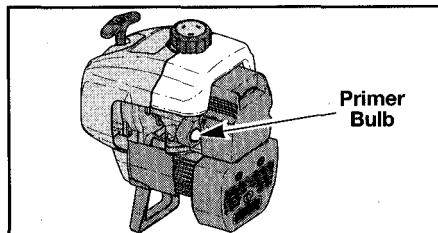

Fig. 10
3. **FULLY PRESS AND RELEASE THE PRIMER BULB 5 TO 7 TIMES. FUEL SHOULD BE VISIBLE IN THE BULB** (Fig. 10).